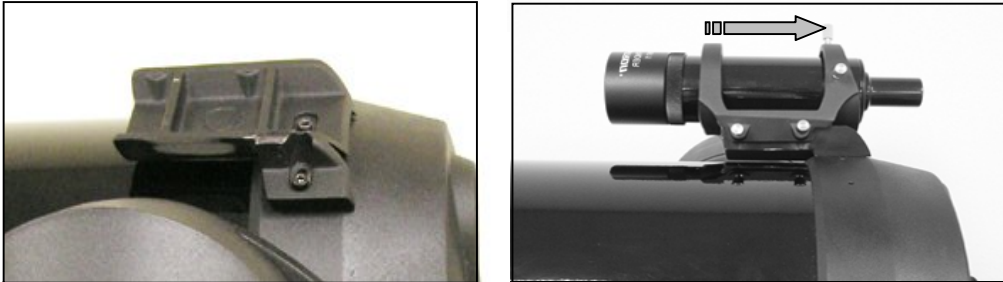

Figure 1-5
3. Place the mounting bracket over the two holes of the rear cell as shown in the figure 1-5.